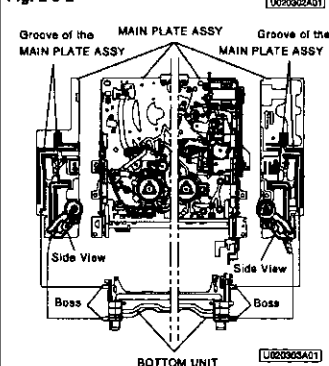

Fig. 2-3-3
3. ASSEMBLY as shown in Fig. 2-3-3.